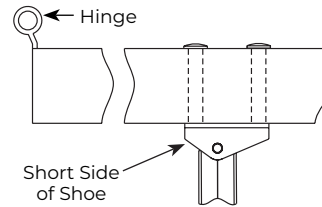

Figure 20 View from ceiling looking downward
**NOTE:** Orient shoe with short side of shoe toward hinge. (Figure 20)